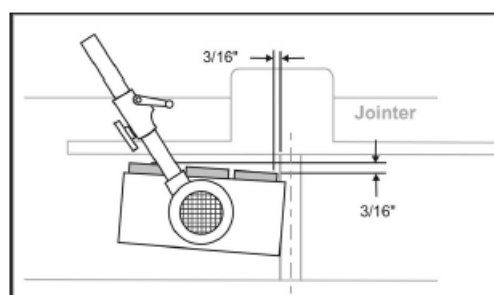

Figure 22
2. Some woodworkers prefer to place the feeder so that all rollers are over the outfeed table, as shown in Figure 22. The infeed roller should be approximately  $3/16"$  away from the lip of the outfeed table at the cutterhead area.